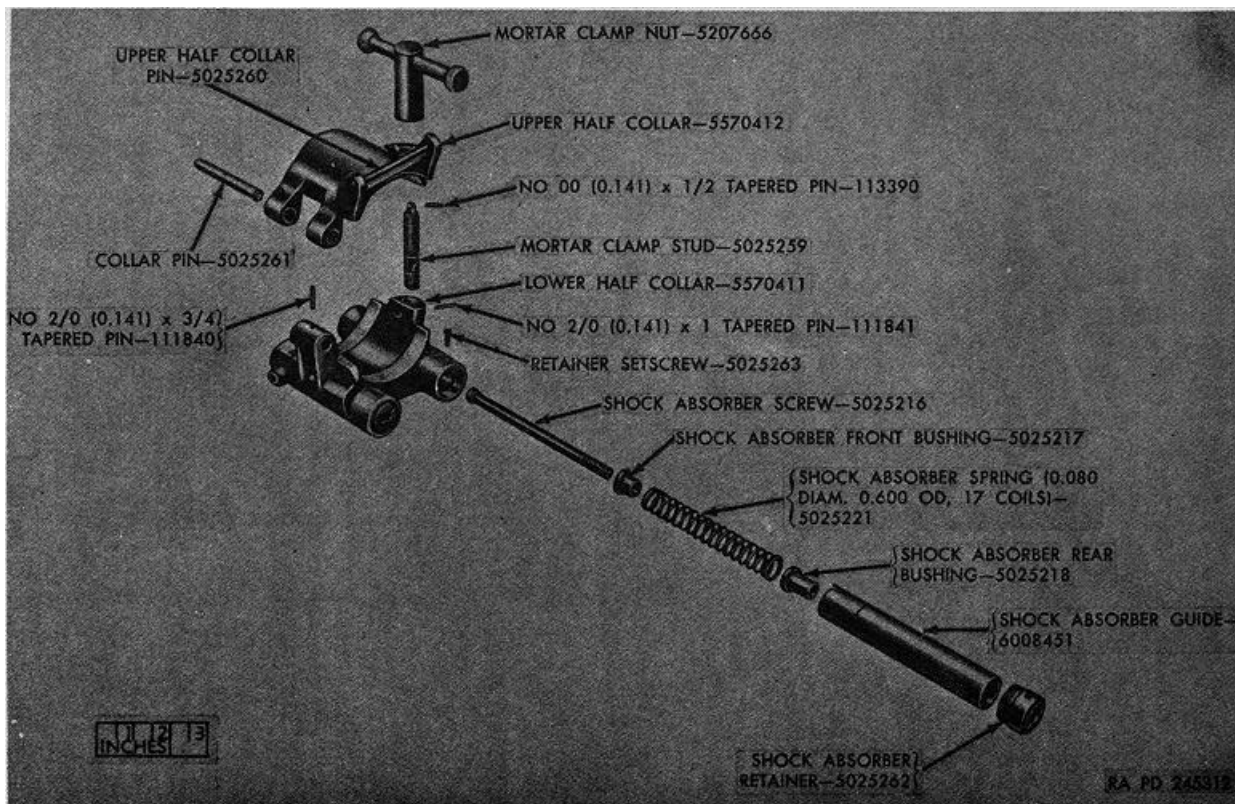

Figure 27. Shock absorber and mortar clamp group--exploded view.
c. Remove retainer setscrews (fig. 27) and back out shock absorbers. Disassemble shock absorbers by removing shock absorber screws, front bushings, springs, rear bushings, and guides (fig. 27). Unscrew shock absorber retainers (fig. 27) (mark to facilitate assembly).
d. To disassemble the clamp assembly, proceed as outlined in (1) through (3) below.
(1) Rotate mortar clamp nut until the hole in the nut aligns with the tapered pin in the clamp stud; then drive out the tapered pin and unscrew mortar clamp nut from the clamp stud (fig. 27).
(2) Drive out tapered pin which secures collar pin to lower half collar; then drive out collar pin (fig. 27) to separate upper and lower half collars.
(3) Drive out tapered pin from lower half collar and unscrew clamp stud (fig. 27).
a. Insert shock absorber rear bushing into shock absorber guide (small end leading) and then follow with shock absorber spring, shock absorber front bushing (small end leading), and shock absorber screw (fig. 27).
b. Slip the shock absorber guides into the pockets of the lower half collar so that slot in each guide aligns with a pin located in the yoke body; slip the yoke down over the guides and align screw holes in yoke body with screw holes in guides (fig. 27).
c. Screw each shock absorber retainer (fig. 27) into its pocket in the lower half collar until screw holes align. Screw in the retainer setscrews (fig. 27) part way.
d. Turn the shock absorber screw into each shock absorber retainer until the screw holes of the screw align with holes in the shock absorber retainer (fig. 27) and lower half collar. Screw in the retainer setscrews completely.
f. To assemble the mortar clamp assembly, proceed as outlined in (1) through (3) below.
- (1) Screw mortar clamp stud tight into lower half collar and drive in No. 2/0 (0. 141) x 1 tapered pin (fig. 27).
- (2) Hold the upper half collar so that slotted hole of collar is over the mortar clamp stud, and mesh the hinge of the upper and lower half collars (fig. 27). Drive in collar pin until holes align and drive in No. 2/0 (0. 141) x 3/4 tapered pin (fig. 27).
- (3) Screw mortar clamp nut on mortar clamp stud until holes align and then drive in No. 00 (0. 141) x 1/2 tapered pin (fig. 27).